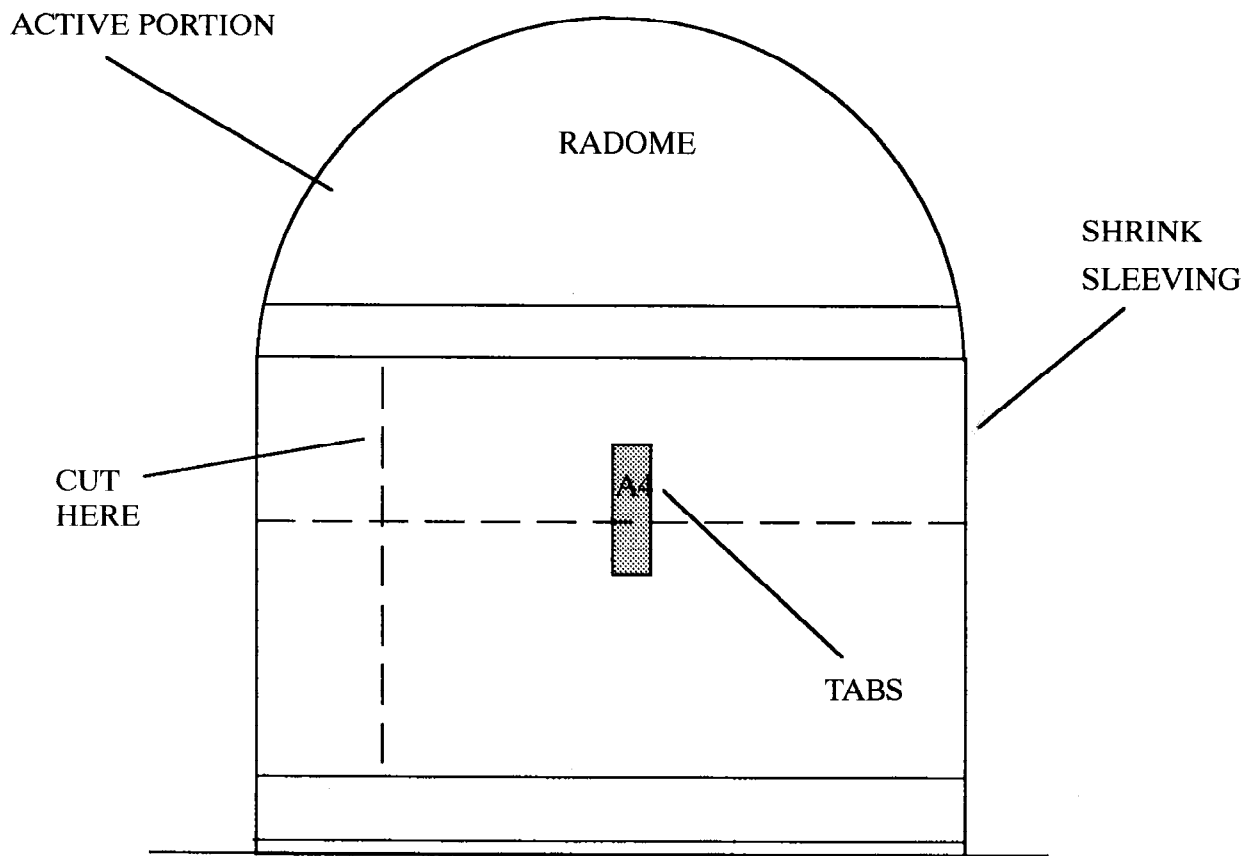

Figure 3. Radome With Shrink Sleeving
- (1) Refer to paragraph 8 a of this TB for inspection procedures.
- (2) Carefully make straight linear cut from one end of sleeving to the other using Exacto knife. Apply just enough pressure to barely cut through sleeving (see Figure 3).
- (3) Grip one end of cut sleeving using needlenose pliers, and turn until sleeving wraps around plier ends. Pull upward while turning until all sleeving is removed.